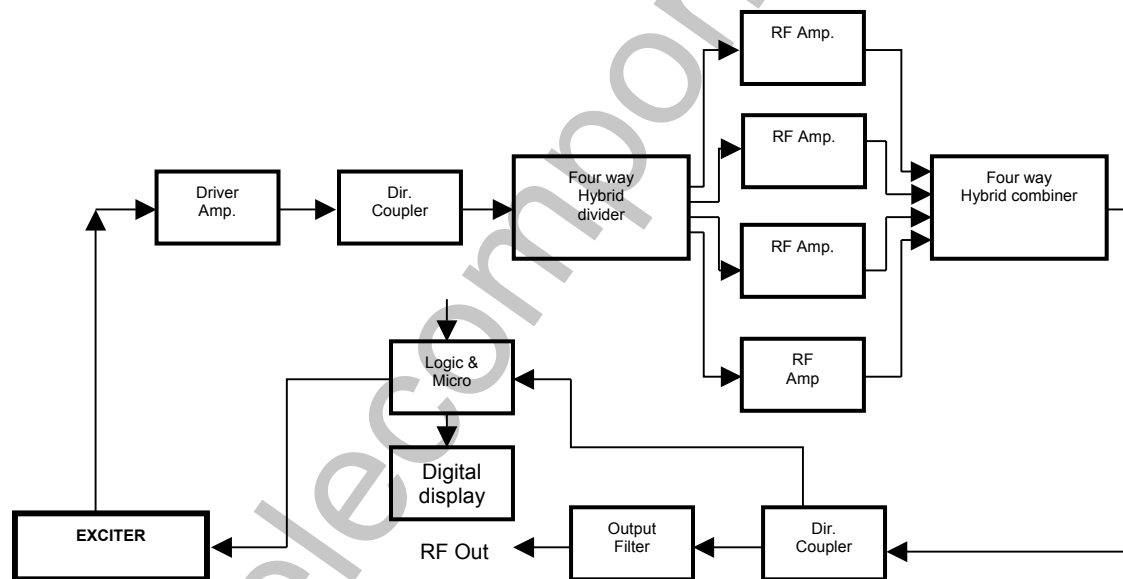

Figure 4: ETL0470 RF Amplifier blocks diagram
- The ETL0470 UHF TV RF Amplifier Module blocks diagram is shown in figure 4.